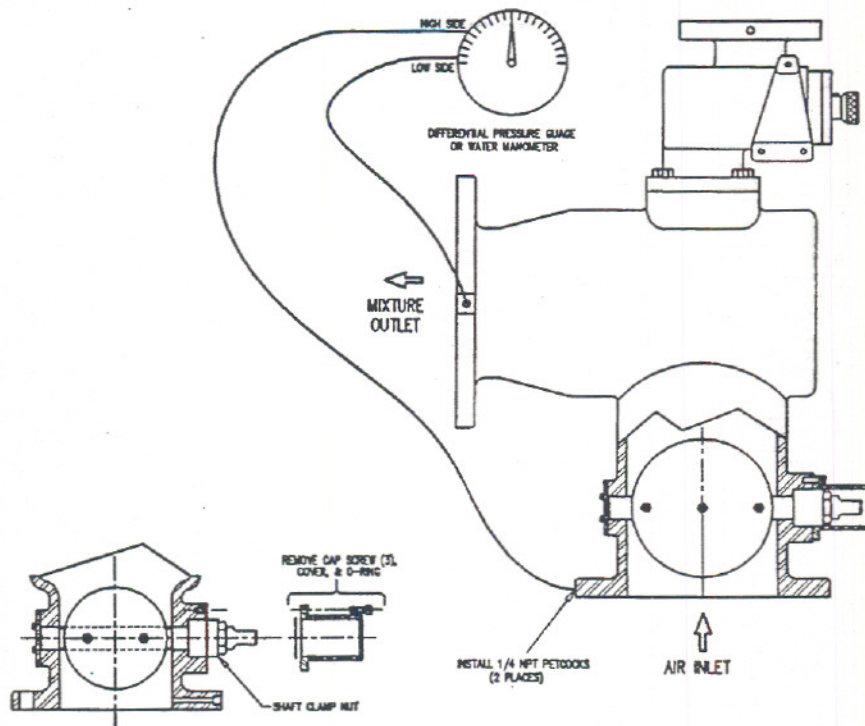
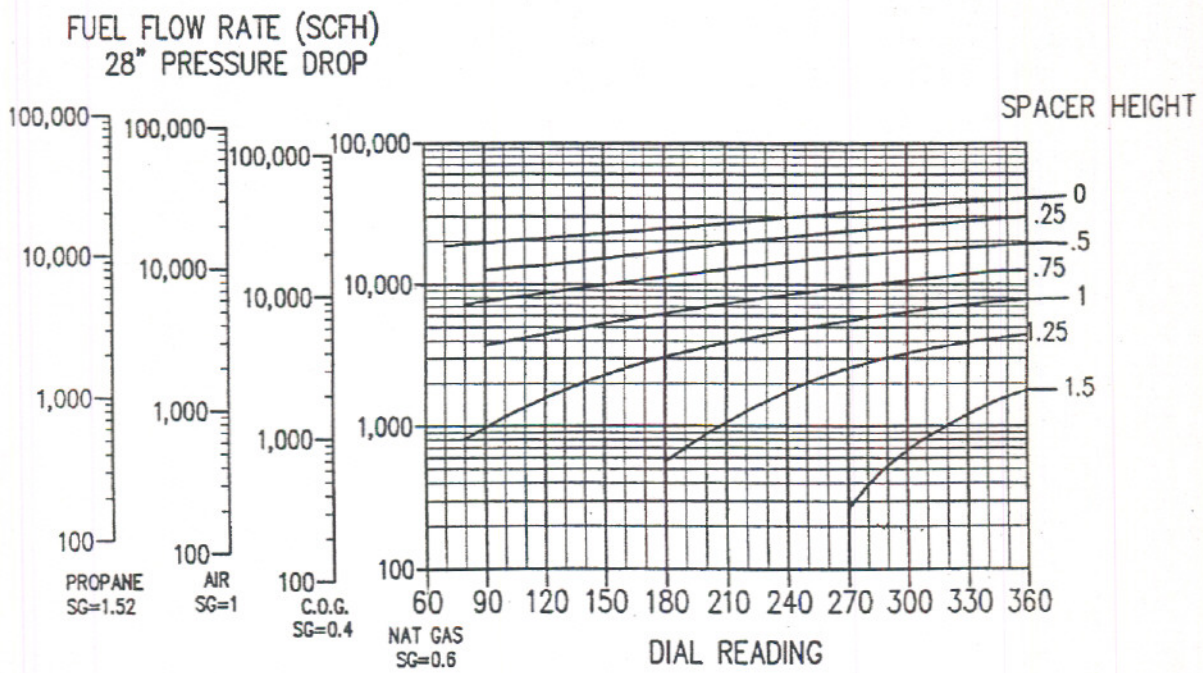

Figure 8 – Rating Adjustment Arrangement
Figure 9 – Gas Valve Spacer Selection Chart
1. During a non-operating period or with the fuel supply turned off, install petcocks at test points per Figure 8 and connect a differential pressure gauge across the two test points.
3. Remove the air valve cover (See Figure 8) to expose the air valve adjustment. Loosen the lock nut to allow rotation of the air valve.
- a. Remove the gas valve and o-ring from the PosiMix body by removing (4) cap screws.
- e. The chart in Figure 9 shows the spacer thickness required for different flow rates and fuels at a 28" pressure drop. For other fuels or pressure drops, use the natural gas scale and multiply the required fuel flow rate by the following factor: